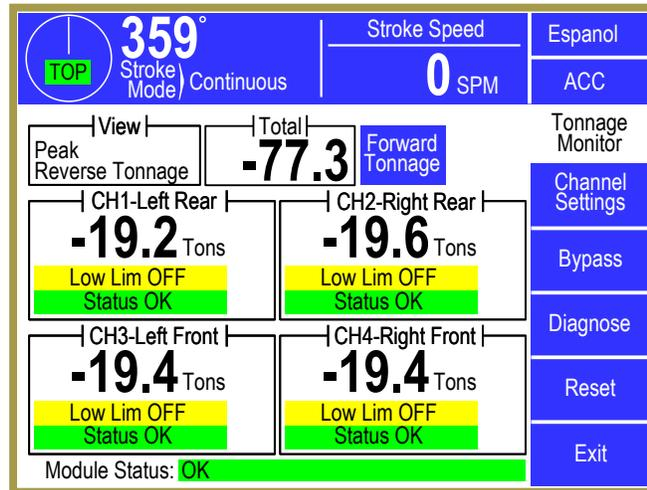

Figure 5: Tonnage Monitor Main Screen Showing Reverse Tonnage
Peak forward tonnage and peak reverse tonnage can be selected for viewing. Figure 4 is an example of a peak forward tonnage view, and Figure 5 shows a peak reverse tonnage view. Two channel screens look much the same but have no channel three or channel four information sections.
- Reverse Tonnage *Softkey*** This softkey changes the tonnages displayed to peak reverse tonnage (see Figure 5: Tonnage Monitor Main Screen Showing Reverse Tonnage). This key is only present when viewing peak forward tonnage. See section 3.2.1 on page 14 for more information.
Figure 5 shows a four channel screen when viewing reverse tonnages. Notice that there are no limit bars when viewing reverse tonnage as there is only one reverse limit for each channel. The **Reverse Tonnage** softkey has also changed to **Forward Tonnage** to allow switching back to the forward tonnage view.